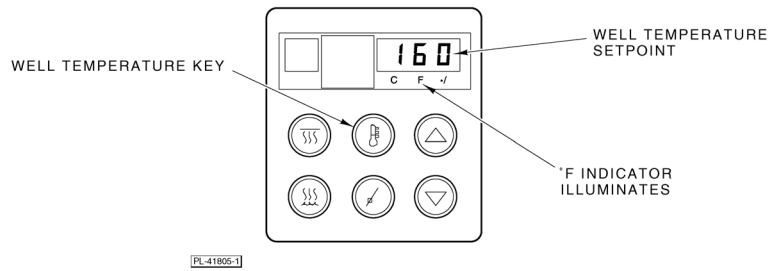

Fig. 21
- The right display shows the well temperature set point (Fig. 21). After 10 seconds, the actual well temperature, not the set point, is displayed.